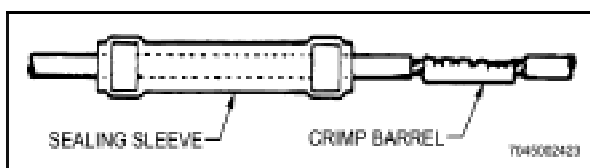

Figure 5-12 Correctly Installed Crimp Barrel
- n. Using appropriate crimping tool and die (Table 5-2) crimp splice to wire ends (Figure 5-12).